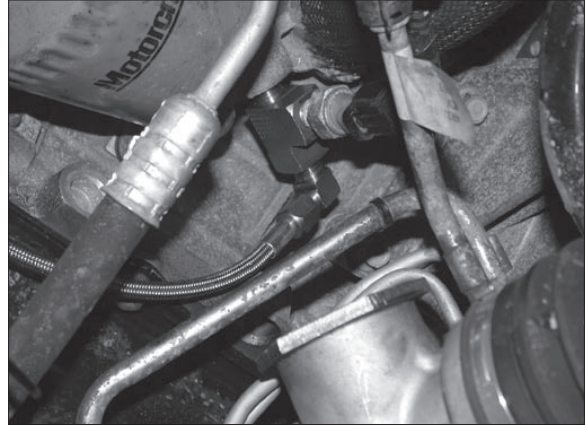

Fig. 2-a
- C. Locate the supplied 1/4"NPT street TEE fitting. Install the TEE in the same location as the factory sending unit with the 1/4" x -4 x 90° installed on the TEE at the location noted. (See *Fig. 2-a*.)
- D. Attach the stainless steel -4 hose to the -4 fitting installed in the street TEE. (See *Fig. 2-a*.)
- F. Reinstall the factory sensor in the branch of the TEE as shown. (See *Fig. 2-a*.)